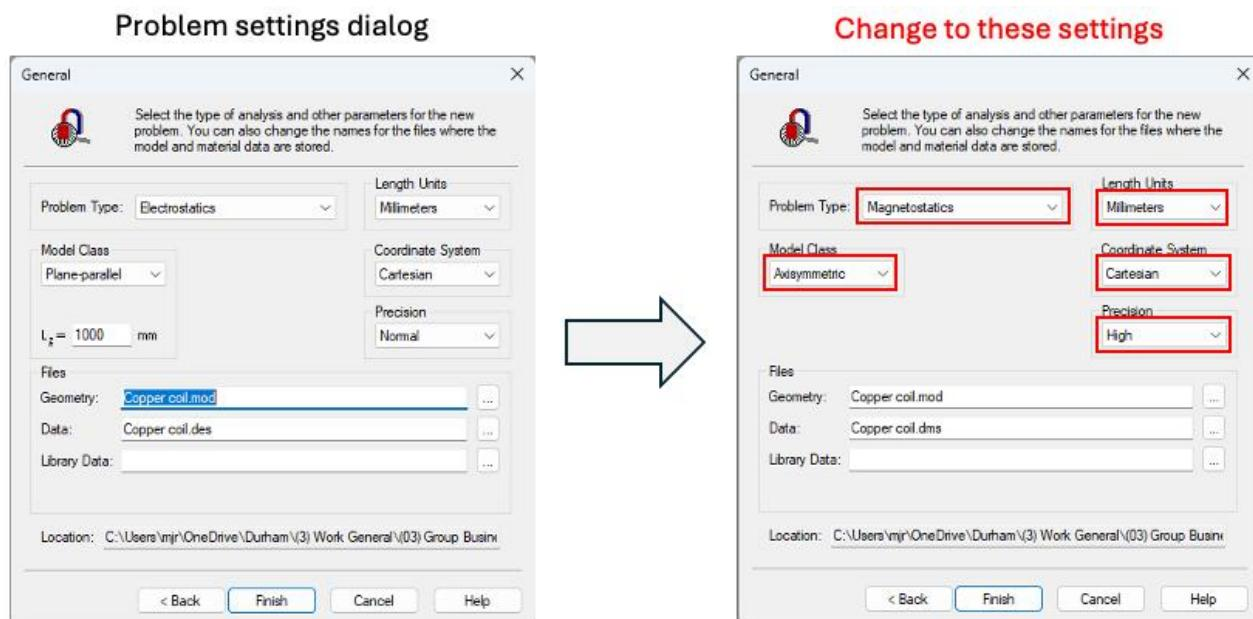

Figure 1: Setting up the project.
3. Give the file a name that makes sense to you, "Copper coil" for instance, and save it to your preferred location using the **Browse** button. When done, click **Next** at the bottom of the dialog and the next screen will appear (Figure 1 (LEFT)),
4. Change the settings to those shown in the red boxes in Figure 1 (RIGHT) (if they are not already the same) i.e. "Magnetostatics", "Axisymmetric", "Millimeters", "Cartesian", and "High". Click **Finish**.